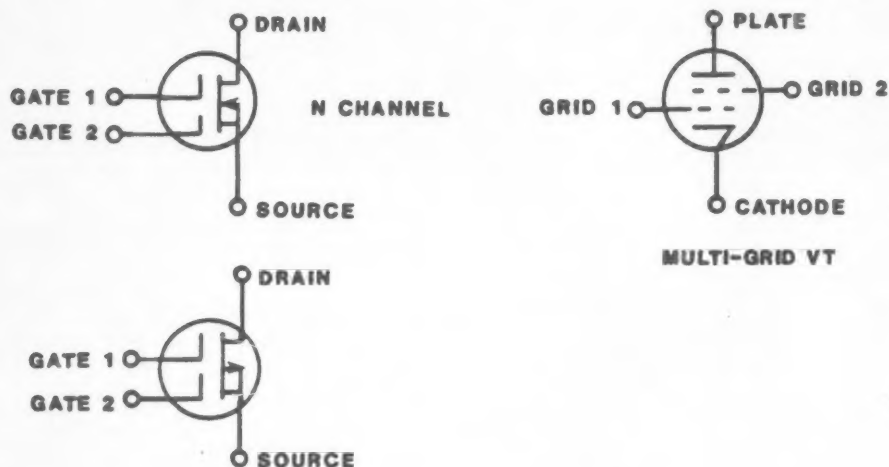

Figure 19
- ②0. The MOSFETs you have learned about have only one gate, and are called single-gate MOSFETs. Some MOSFETs have an additional gate, and are called dual-gate MOSFETs. The dual-gate MOSFET operates very much like a multi-grid vacuum tube. The labeled schematic symbols for N-and P-channel dual-gate MOSFET's, and a multi-grid vacuum tube, are shown in Figure 19.